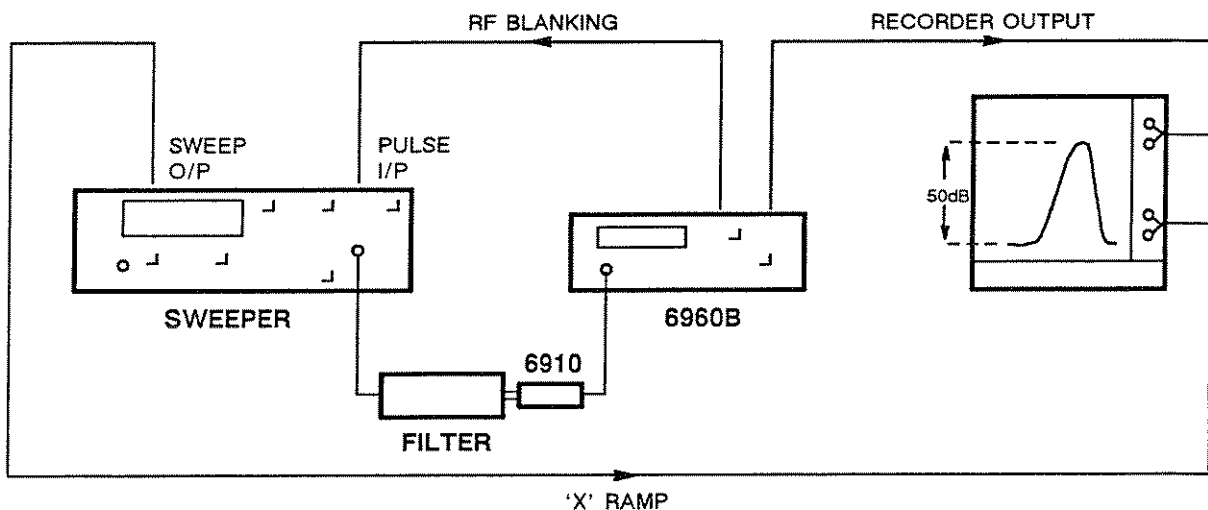

Fig. 3-5 A typical measurement set up using recording and RF blanking facilities of 6960B
- Recording - Use the RECORDING OUTPUT to obtain the full 50 dB dynamic range of the power sensor, including all correction factors. (see Fig. 3-5).
- RF blanking - Use this BLANKING OUTPUT to turn off the source RF while an AUTOZERO is performed. This enables the RF Sensor to remain connected in the system. (see Fig. 3-5).